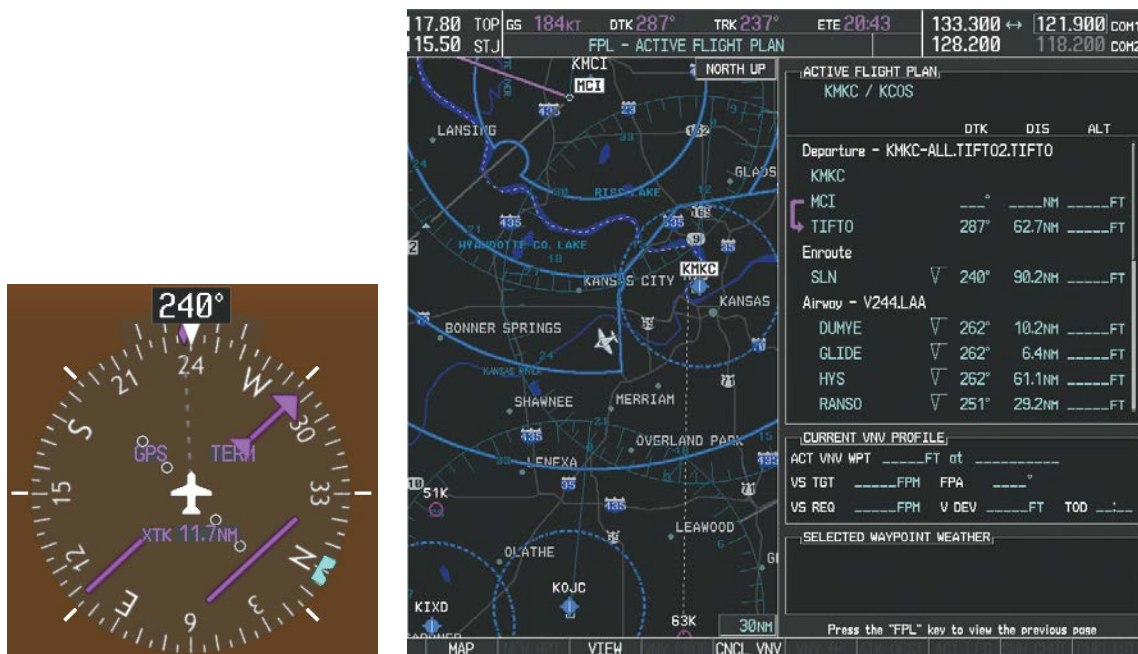

Figure 5-111 Assigned Heading of 240°
- 1) Prior to departure, the TIFTO2 departure, the airways, and the DBRY1 arrival at KCOS are loaded. See the Procedures section for loading departures and arrivals. Note the magenta arrow in Figure 5-111 indicating the active departure leg.
- 2) Figure 5-111 shows the aircraft on the assigned heading of 240°. 'TERM' (Terminal) is the current CDI flight phase displayed on the HSI indicating 1.0 nm CDI scaling.